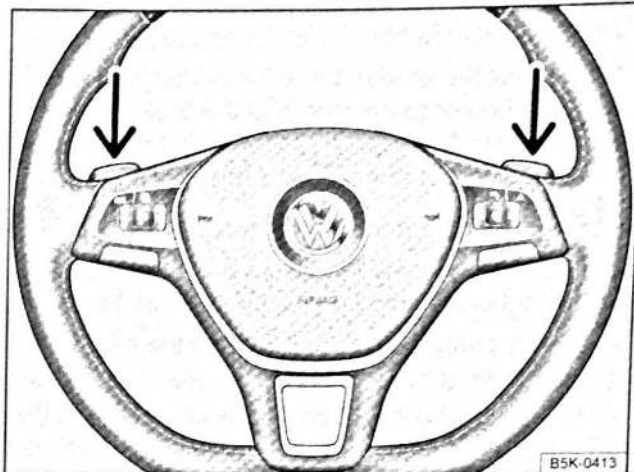

Fig. 138 Steering wheel with 2 paddles for Tiptronic
- In driving mode **D** or **S**, or in the Tiptronic gate, use the paddles on the steering wheel $\Rightarrow$ Fig. 138 (arrows).